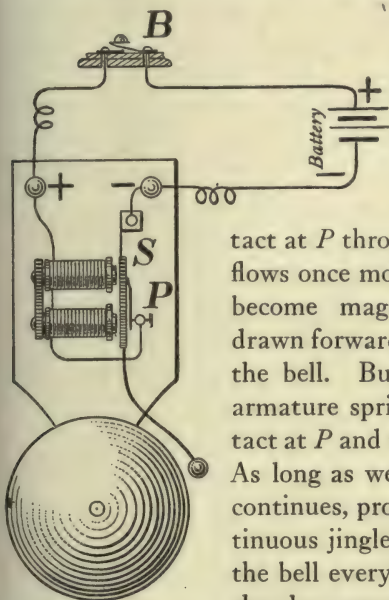

FIG. 89. — The electric bell.
**The electric bell.** — The ringing of an electric bell is due to the attractive power of an electromagnet. By pushing a button (Fig. 89, *B*) connection is made with a battery, and current flows through the wire wound on the iron spools, and further to the screw *P* which presses against the
*P* (Fig. 89). That is, the pressure on the push button permits current to flow to the bell. The flow of this current depends solely upon the connection at *P*, which is alternately made and broken, and in this way produces sound.